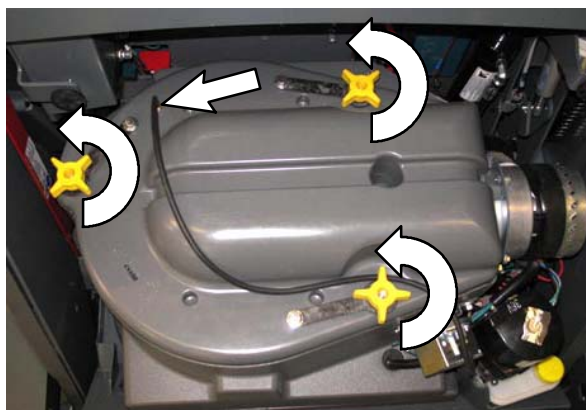

FIG. 1
3. Disconnect the vacuum hose from the dust filter cover and remove the dust filter cover from the hopper. Set the dust filter cover aside. (Fig. 1)